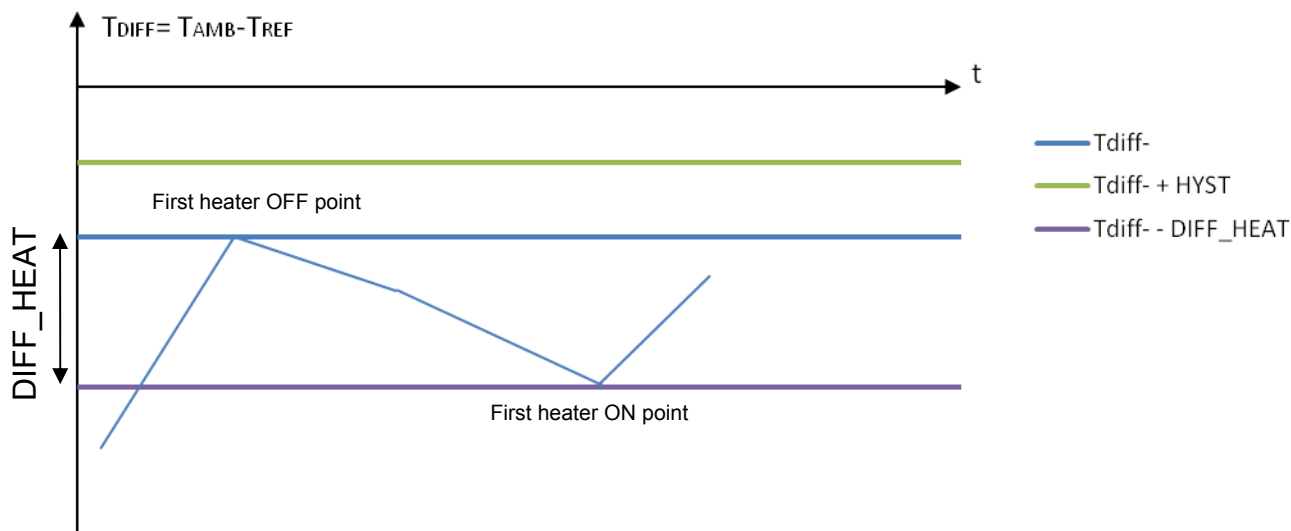

Fig. 13 First heater regulation
- $DIFF_HEAT$: wideness of the temperature difference band (straddling T_{DIFF-} , as shown in Fig. 13) in which no action is required. If the temperature difference reaches the value $T_{DIFF-} - DIFF_HEAT$, the first heater is started (half power functioning),